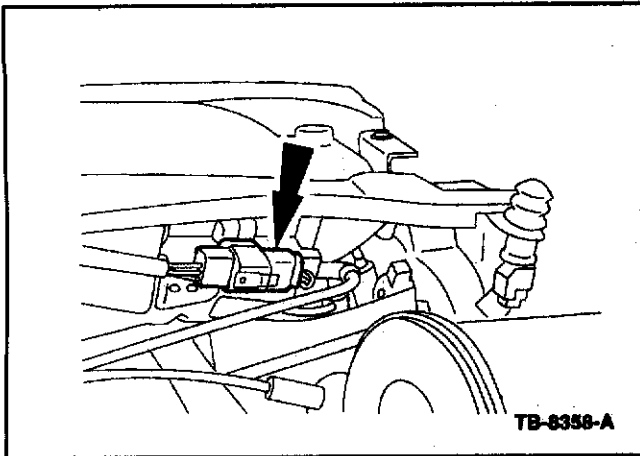

Figure 13 - Article 06-14-10
16. Connect the electrical connector. (Figure 13)